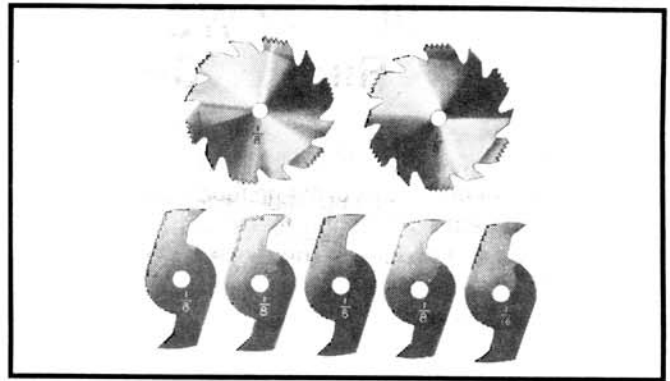
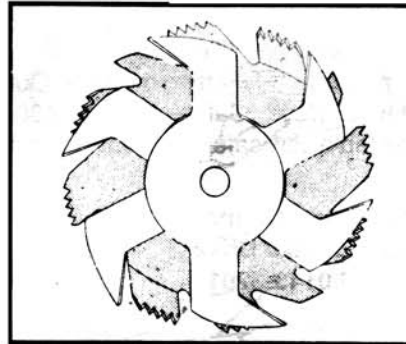
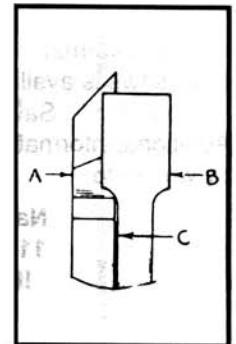

Fig. 65
Fig. 66
Fig. 67
Dadoing is cutting a rabbet or wide groove into the work. Most dado head sets are made up of two outside saws and four or five inside cutters, as shown in Fig. 65. Various combinations of saws and cutters are used to cut grooves from 1/8" to 13/16" for use in shelving, making joints, tenoning, grooving, etc. The cutters are heavily swaged and must be arranged so that this heavy portion falls in the gullets of the outside saws, as shown in Fig. 66. The saw and cutter overlap is shown in Fig. 67, (A) being the outside saw, (B) an inside cutter, and (C) a paper washer or washers which can be used as needed to control the exact width of groove. A 1/4" groove is cut by using the two outside saws. The teeth of the saws should be positioned so that the raker on one saw is beside the cutting teeth on the other saw.